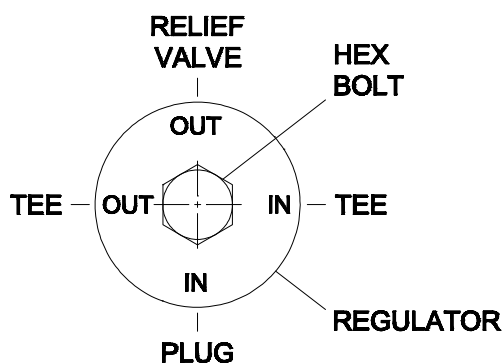

Figure 6-4. Orientation of Components Attached to Regulator (AHP-V101)
- (4) Remove O-rings (16,17) from relief valve (14), plug (15), and positionable tees (6). Cut and discard O-rings.
- (5) Using MIL-S-8660, lubricate new O-rings (16,17) and install on relief valve (14), plug (15), and positionable tees (6).
- (6) Using Figure 6-4 as a guide, install the following components into correct ports of new regulator:
- (10) Using 5/32" Allen wrench, secure the two hex socket-head screws (11) on panel mounting bracket assembly (12).
- (11) Turn panel assembly over.
- (12) Apply one drop of Loctite® to threads of regulator knob (9), and thread regulator knob onto regulator (13) until it bottoms out.
- (13) Apply one drop of Loctite® to threads of retaining nut (10) and thread nut onto regulator (13). Using socket and ratchet handle, tighten retaining nut against regulator knob (9). Rotate knob to ensure smooth operation; adjust tightness of retaining nut if necessary.
- (14) Snap cover (8) into place on regulator knob (9).
- (15) Using 9/16" wrench, tighten nuts holding positionable tees (6) to regulator (13).